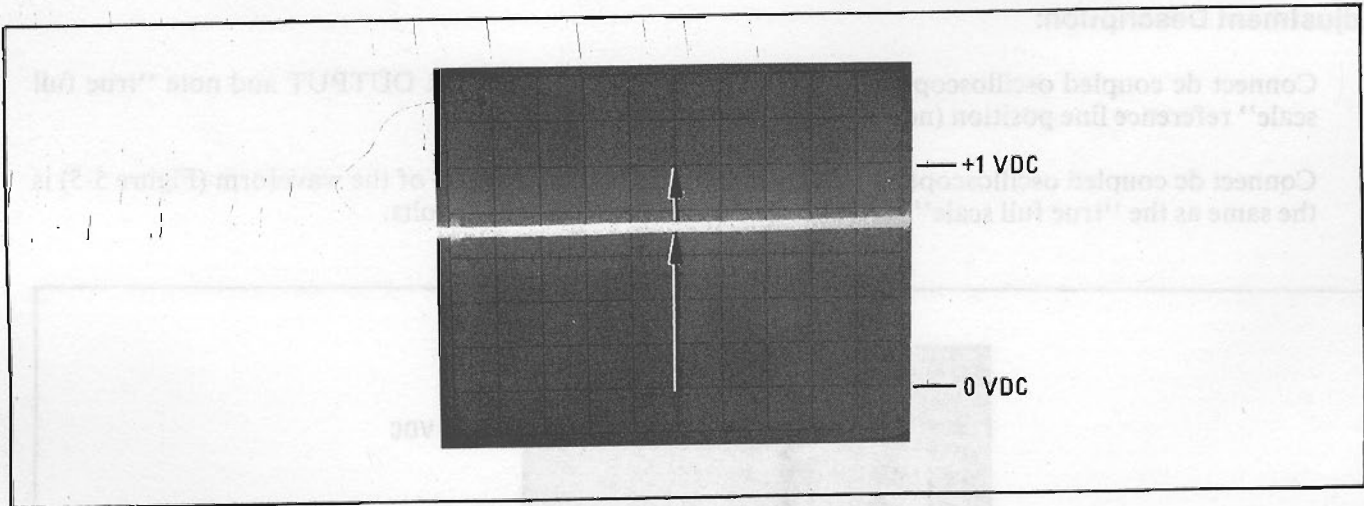

Figure 5-6. X Ramp Waveform Showing Slow 0 to +1 Vdc Excursion of Trace
- c. Press front-panel . The maximum positive position of trace at the end of the plot cycle (Figure 5-6) should be the same as the "true full scale" reference line noted in step a. If not, adjust "F" then press . Repeat this procedure until the X ramp ends on the reference line noted in step a ± 30 mV.